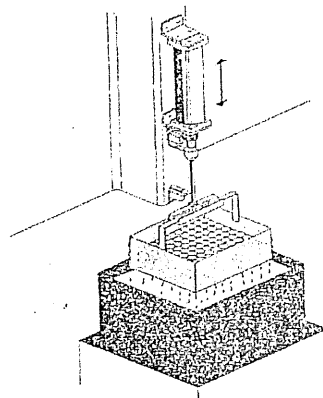

Figure 4
- c) Figure 4 shows a washer system with container to be dipped in and out of a cleaning bath. The washer system is equipped with a double acting cylinder and two limit switches to detect the retract and extend position. The cylinder is control using a 5/2 way single solenoid valve. The cleaning process are continuous movement in and out of the cleaning bath by pressing Start pushbutton momentarily. The cleaning process finishes automatically in the raised position after 5 extending strokes. The counter then must be reset using pushbutton Reset before a restart is possible.